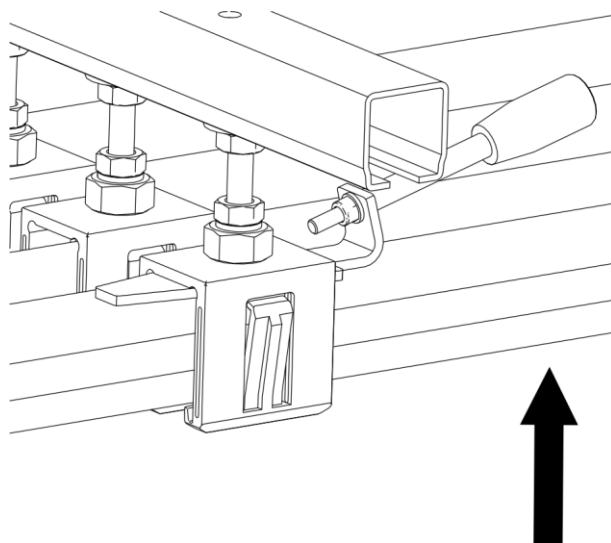
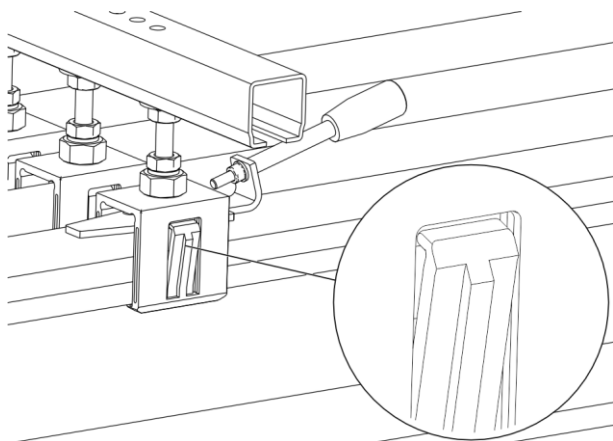
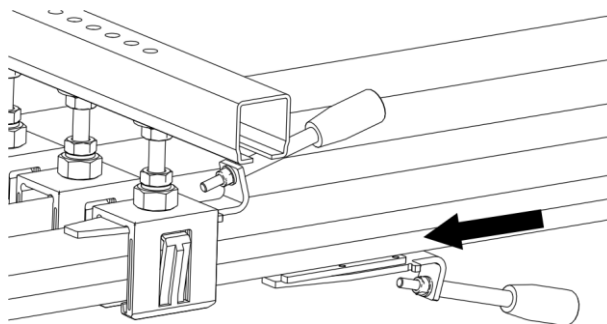

Fig. 63: Press the conductor rail against Tool 1 or against the hanger clamp
Fig. 64: The retaining clamp of the hanger clamp bends up
Fig. 65: Insert Tool 2 on the open side of the conductor rail
- Press the conductor rail against Tool 1 or against the hanger clamp, respectively (see Fig. 63). At the same time, insert Tool 2 on the open side of the conductor rail (see Fig. 65). The retaining clamp of the hanger clamp bends up (see Fig. 64).